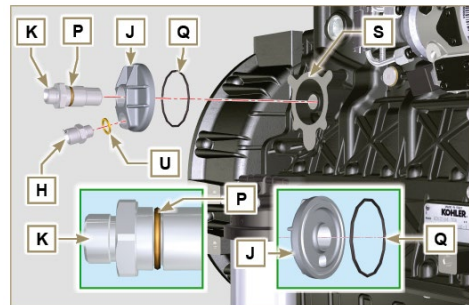
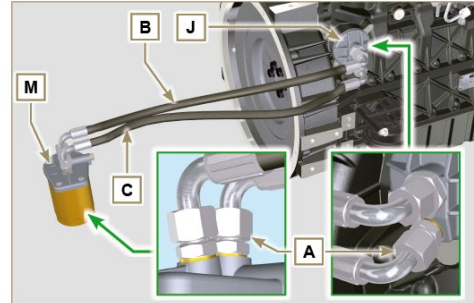

Fig 11.51
Fig 11.52
- Check the tightening of the fittings **H** (Fig. 11.51) and **L** (Fig. 11.52) (tightening torque at **65 Nm**).